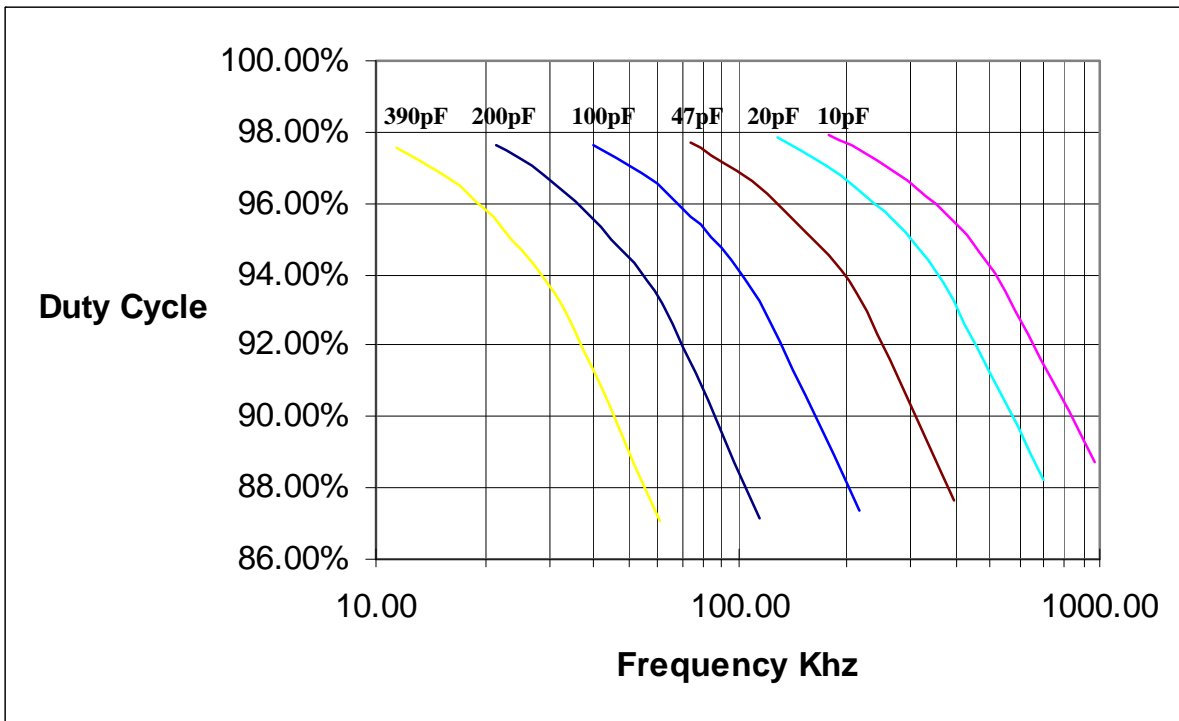

FIGURE 4 – Duty Cycle vs Frequency
- 2) Use Figure 4 to select a capacitor value for Cset that will provide the highest duty cycle (shortest Dead Time) at the frequency required.